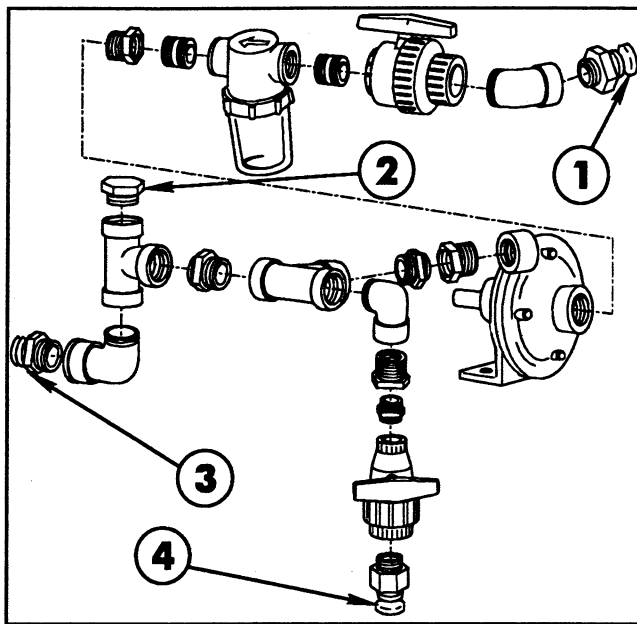

FIG. 5
3. Secure the Centrifugal Pump in a vise. Apply thread sealer and install the fittings to connect the Suction, Supply, and Agitator Hoses to the Pump as shown in FIG. 5.